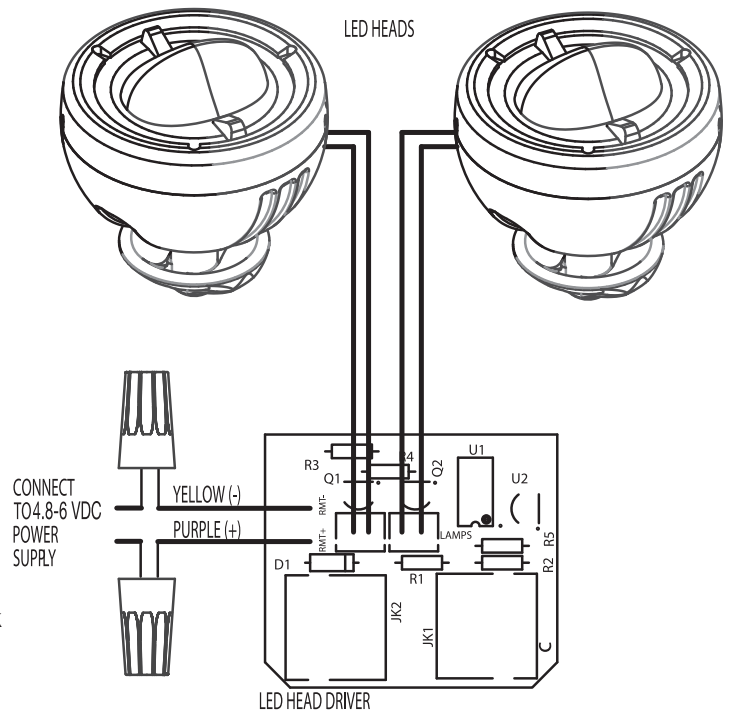

Figure 1
4. Once the backplate is secured, the housing can be held in place during installation with the help of the two plastic strips (see Fig. 1 next page).